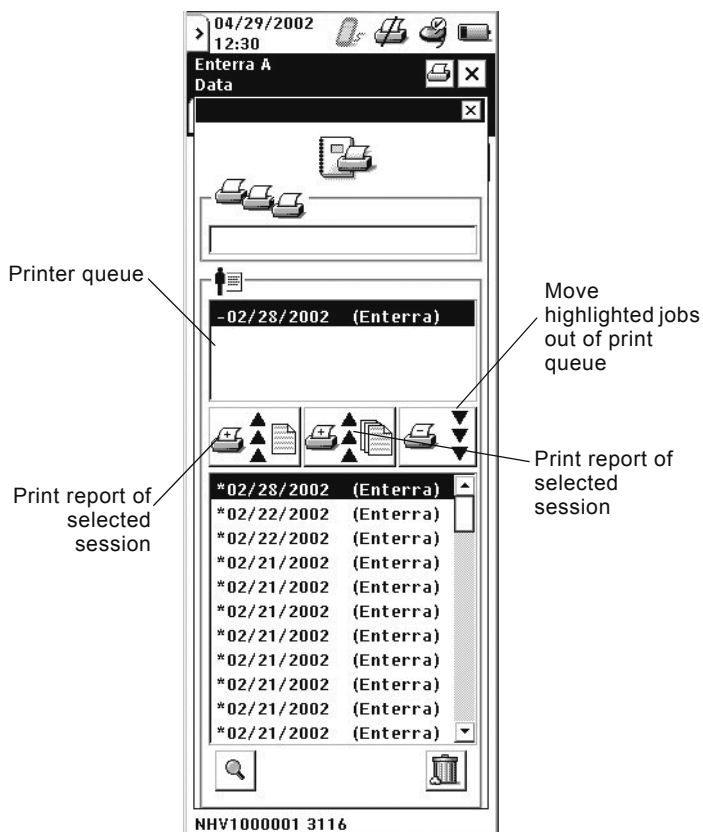

Figure 18. Print request screen.
Note: The print function can also be accessed at any time by selecting the **Printer** (🖨️) icon at the top of any of the programmer screens, or by selecting the **Session Data Manager** (📄) icon from the slider bar. Figure 18 shows the print request screen and its options.
3. Move the highlighted patient session(s) to the printer queue by selecting either print report option (Figure 18).